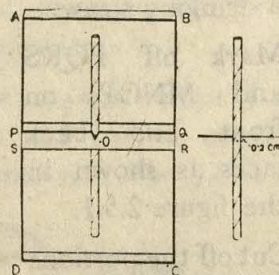

FIG. 2.5.3
5. Pass a darning needle through a straw about 0.2 cm away from its centre. Suspend the arrangement on the V-cuts as shown (Fig. 2.5.3.).